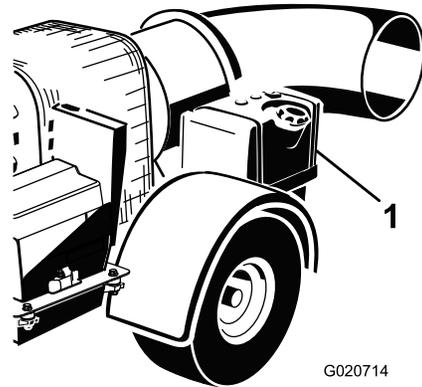

Figure 10
2. Clean the area around the fuel tank cap and remove the cap (Figure 10).